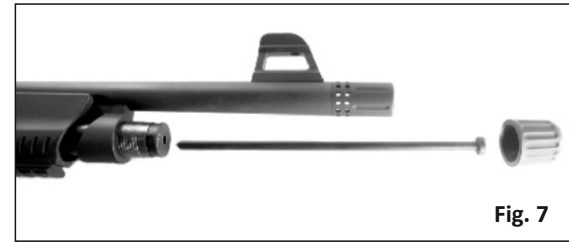

Fig. 7
2. Pull the magazine blocker completely out of the hole in the end of the magazine tube (refer to Fig. 7)